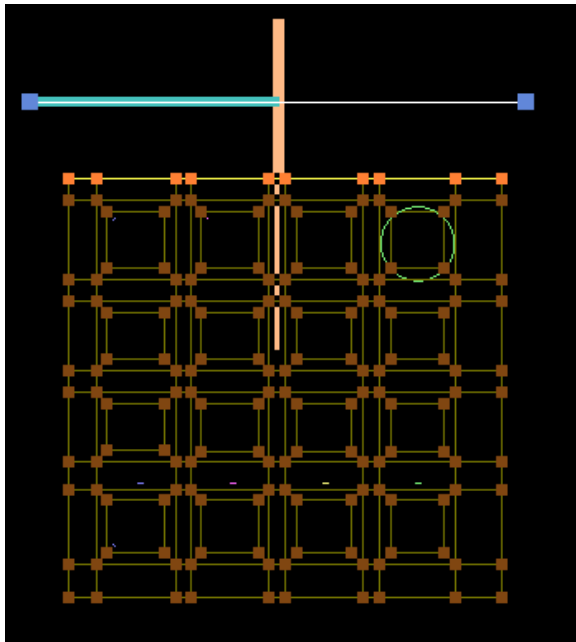
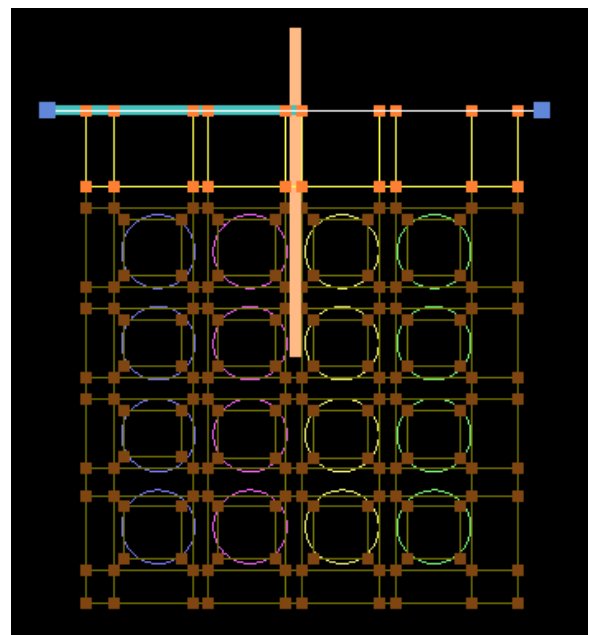

Figure 29.3
Figure 29.4
- Move the cut-plane to a distance as shown in figure 29.3 and copy the grouped corners of group 2 by clicking `+drop back edges` on the option `cp` from the drop down list as seen in figure 29.4